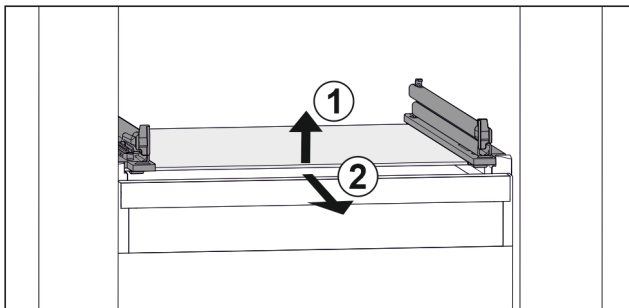

Fig. 48 Example illustration of glass shelf
- ▶ Lift glass shelf at the front. Fig. 48 (1)
- ▶ Take out glass shelf to the front. Fig. 48 (2)